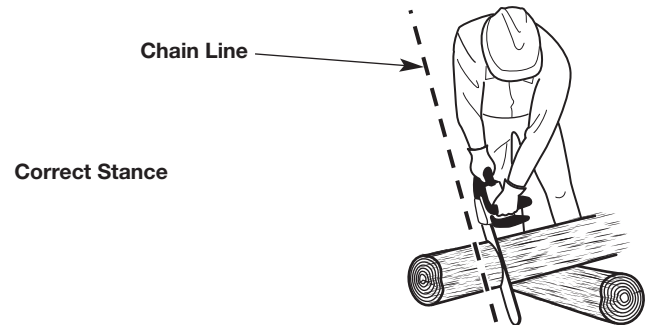
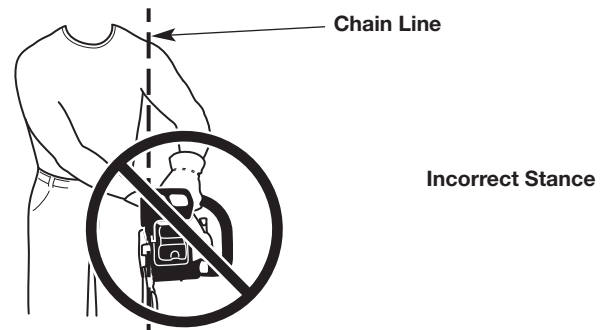

Fig. 5
Fig. 6
- Use these hand placements whether the operator is left-handed or right-handed. This will help keep the operator slightly to the left of the unit and out of the direct line of the chain saw if kickback occurs (Fig. 5 and Fig. 6).